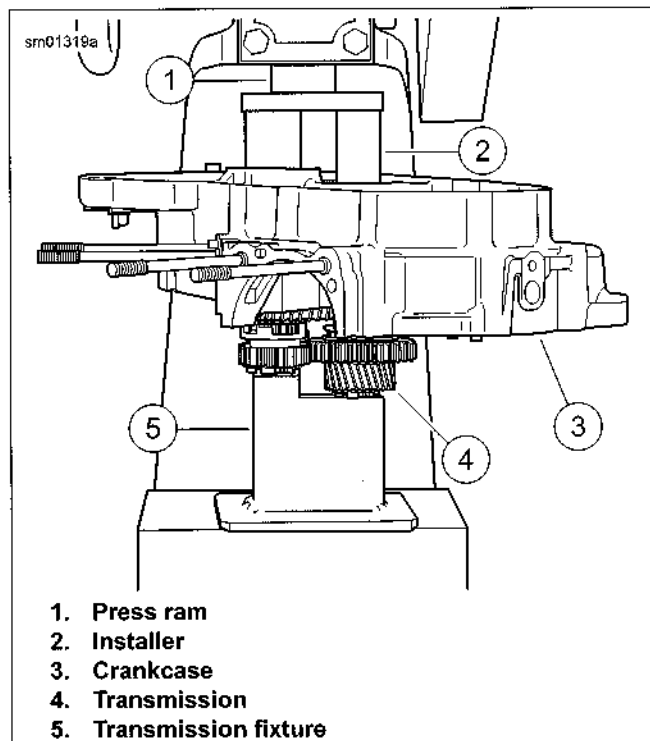

Figure 5-65. Pressing Transmission into Left Crankcase
6. See Figure 5-65. Install left crankcase (3) over transmission assembly (4).
7. Place the INSTALLER (Part No. B-43985-3) (2) over mainshaft and countershaft bearings in crankcase.
8. Position crankcase and transmission assemblies on press with installer under press ram (1).